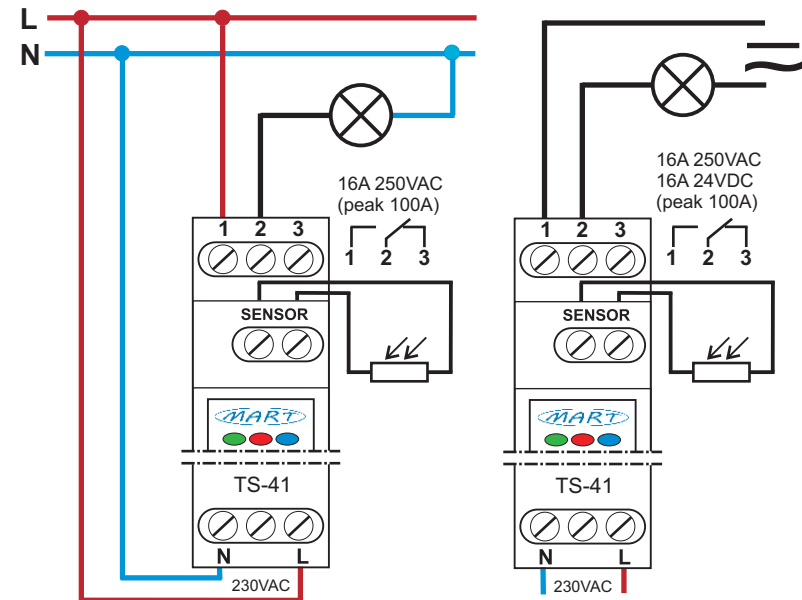

Fig. 2. : Connection diagrams for the TS-41-2 TWILIGHT SWITCH automatic device.
3. Connect the wires in accordance with the diagram (Fig. 2)